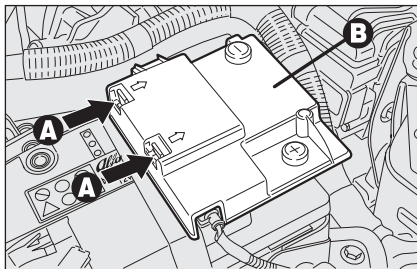

fig. 62
- operate the retaining clips **A-fig. 62** and remove the protection cover **B**;